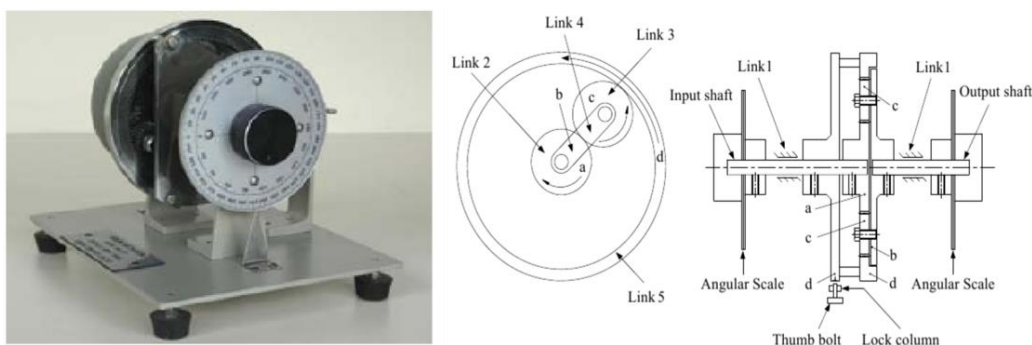

Figure 7.3-1: Detailed description of epicyclic gear train.
- Lab model epicyclic gear train as shown in Figure 7.3-1.